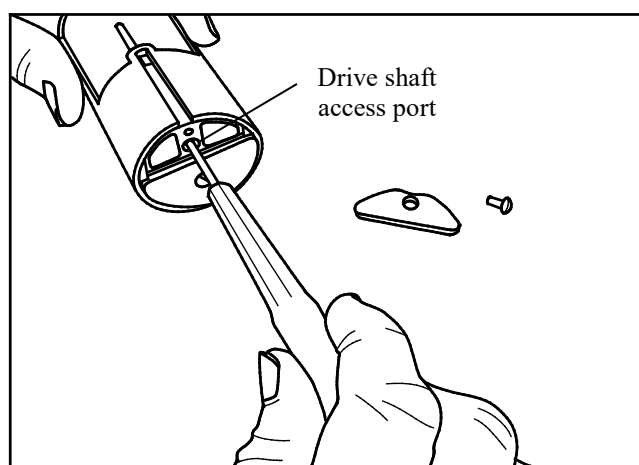
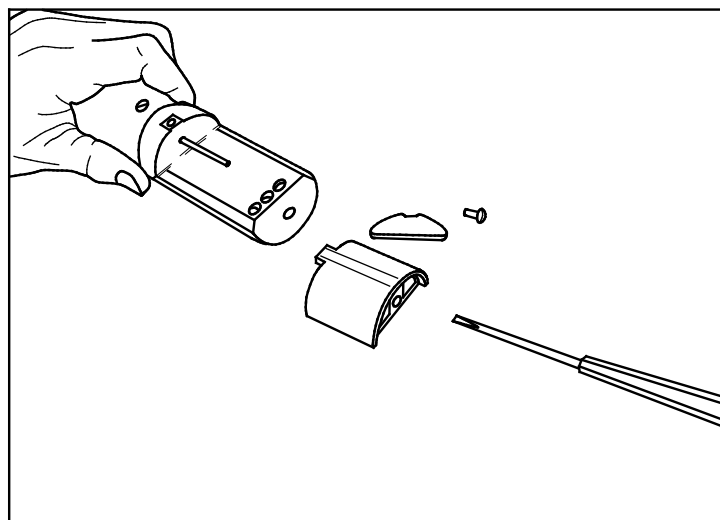

FIGURE 8-7. Insert screwdriver and rotate clockwise
FIGURE 8-8. Shutter disassembled
3. Insert a slot screw driver (2.5 mm (0.1 in.) wide blade) into the access port (FIGURE 8-7).
4. Engage the end of the drive shaft and then rotate clockwise until the shutter is free (FIGURE 8-7 and FIGURE 8-8).